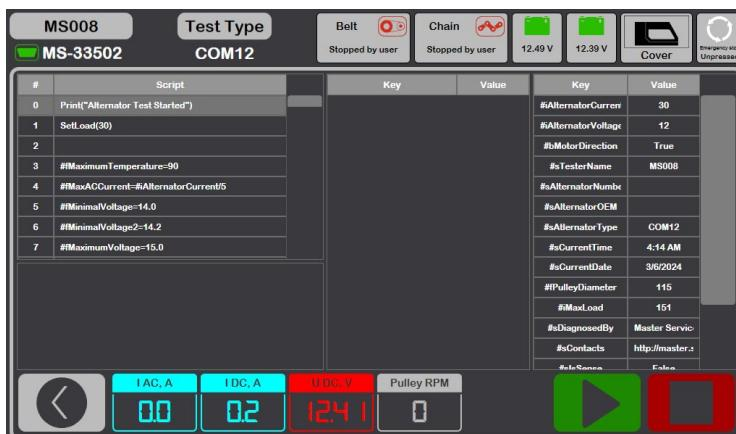

Figure 23. Menu of the automatic test mode
7.3. Gradually increase the load on the alternator using the load control buttons (see item 7 in Figure 23) while keeping the output voltage constant, and the alternating current value in the B+ circuit "I, AC" should not exceed 10% of the set load value (for example, at a load of 50 A, the "I, AC" value should not exceed 5 A). Also, there should be no significant peaks observed on the current oscillogram, the values should fluctuate within consistent limits.
- To start the test, press the button in the opened window (see Figure 23). Then, the bench will automatically perform all checks according to the selected script. If necessary, the test process can be interrupted by pressing the button .